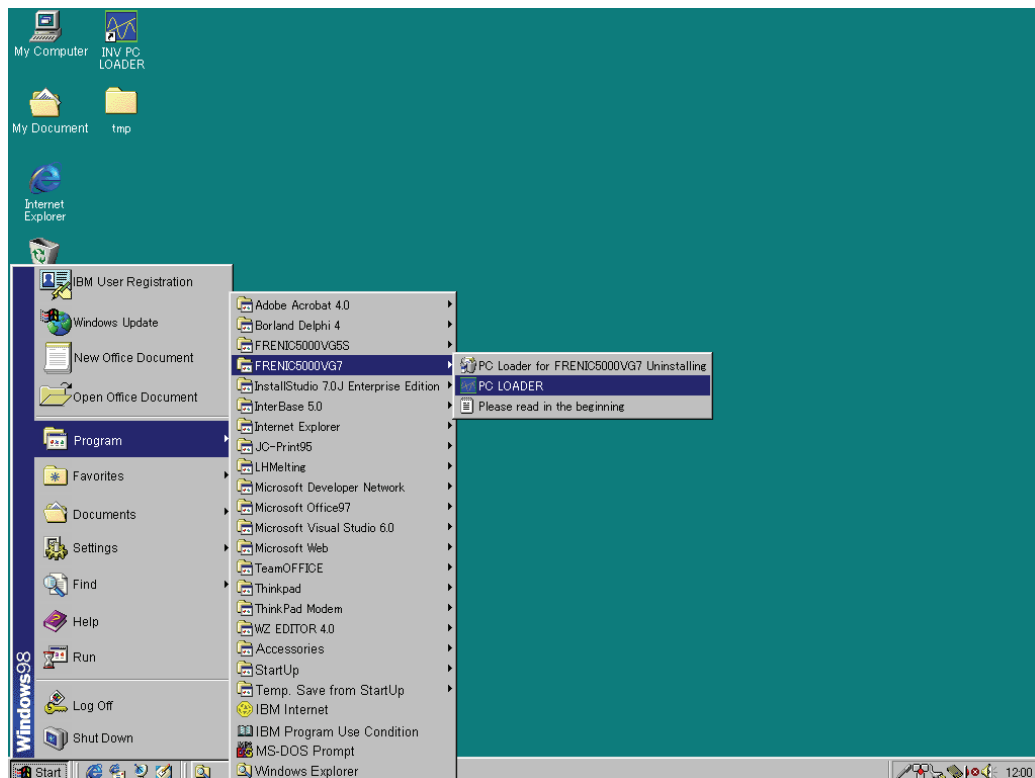

Figure 19 Start from the Start Menu
- (4) Select PC Loader in the start menu as shown in Figure 19.